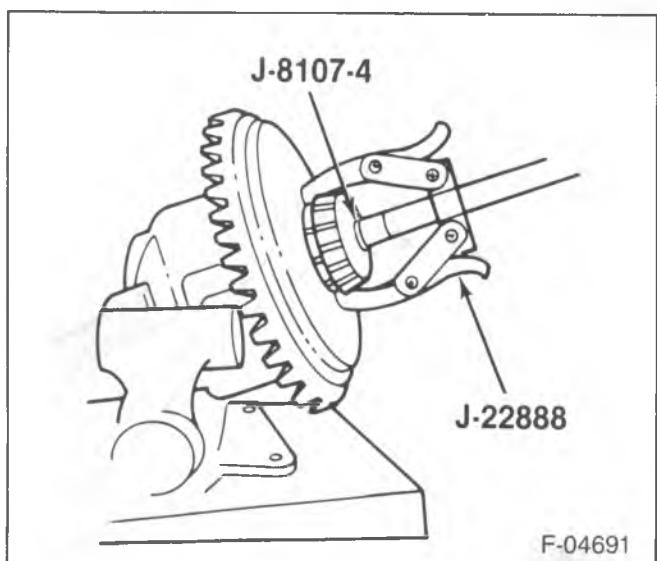

Figure 3—Removing Differential Side Bearing
10. Bearing outer races (8) and shims (9).
11. Differential side bearings (8) using J 8107-4 and J 22888 (figure 3).
12. Ring gear bolts (23).